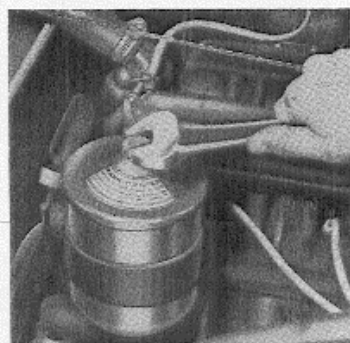

Fig. 7. Removing the cover on a by-pass oil cleaner.
1. Clean off the cover and loosen the centre bolt, see Fig. 7. Lift up the cover and the insert cartridge.